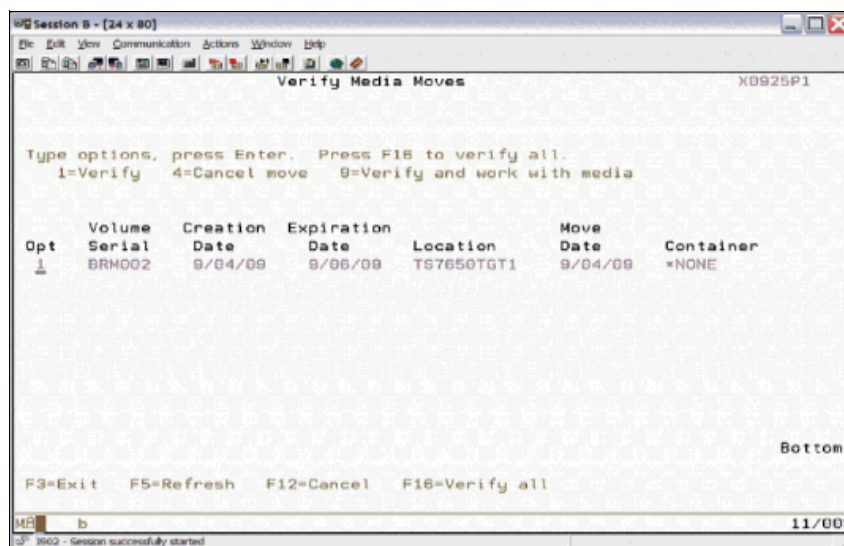

Figure 17-8 Example of change move policy
In Figure 17-8 on page 253, the Home Location specifies the source VTL. Under the Location column, type the name of the target location.
- The cartridge is now available at DR site (Figure 17-8). The Status column for the moved cartridges specifies Available.